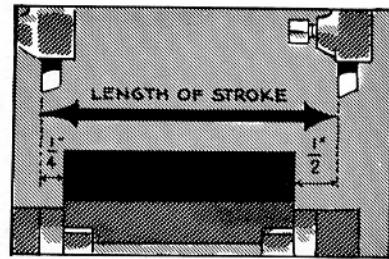

FIG. 371
4. Adjust the ram for a stroke of about three-quarters of an inch longer than the length of the surface to be machined (Fig. 371).
5. Position the ram so that the tool will extend about one-quarter inch beyond the work when it is at the extreme forward position (Fig. 371).
6. Move the ram to the extreme end of the return stroke. There should be just enough clearance for the tool to drop clear of the work for the next cut (Fig. 371).